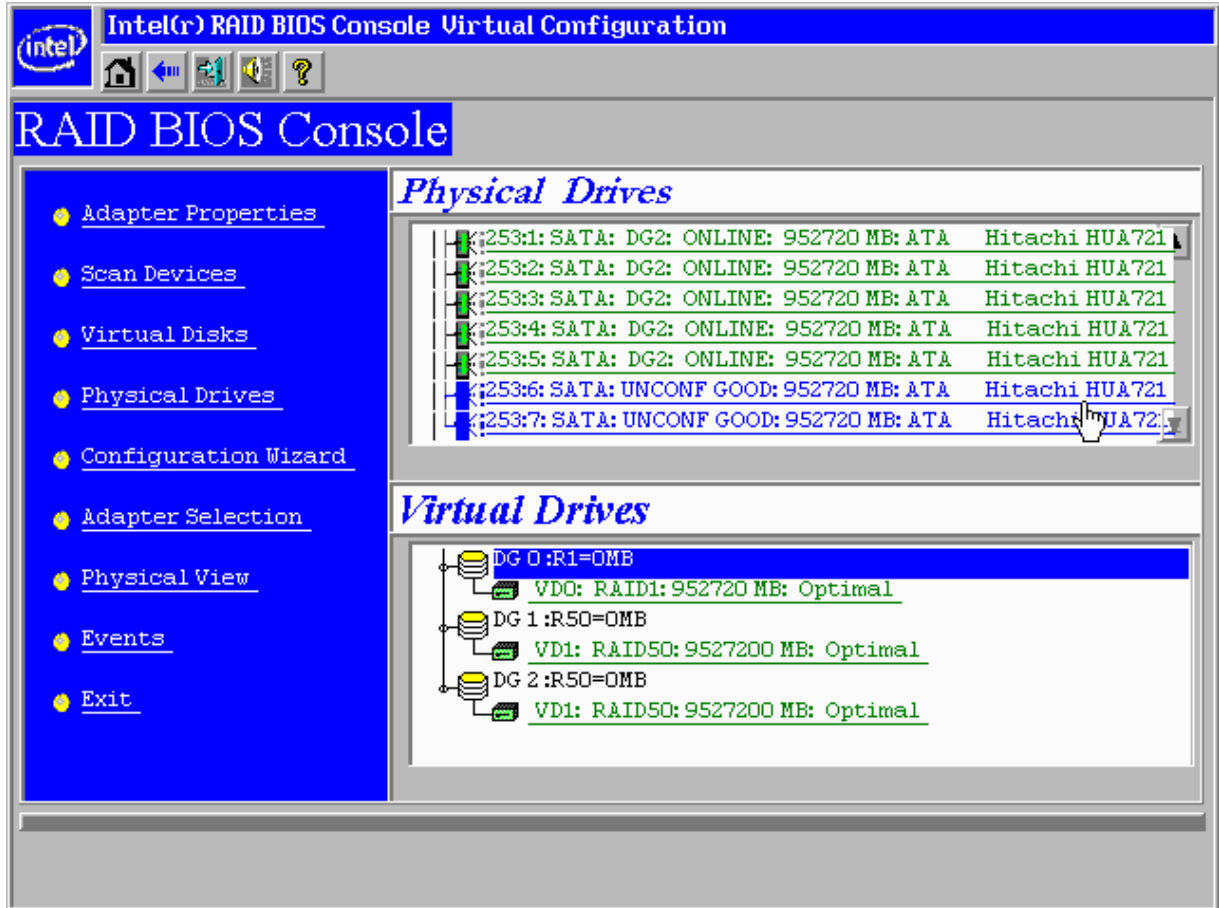

Figure 36. RAID BIOS Console Virtual Configuration Screen – Selecting UNCONF Hard Drives
30. Click any one of the two remaining UNCONF hard drives in the Physical Drives section (see Figure 36).